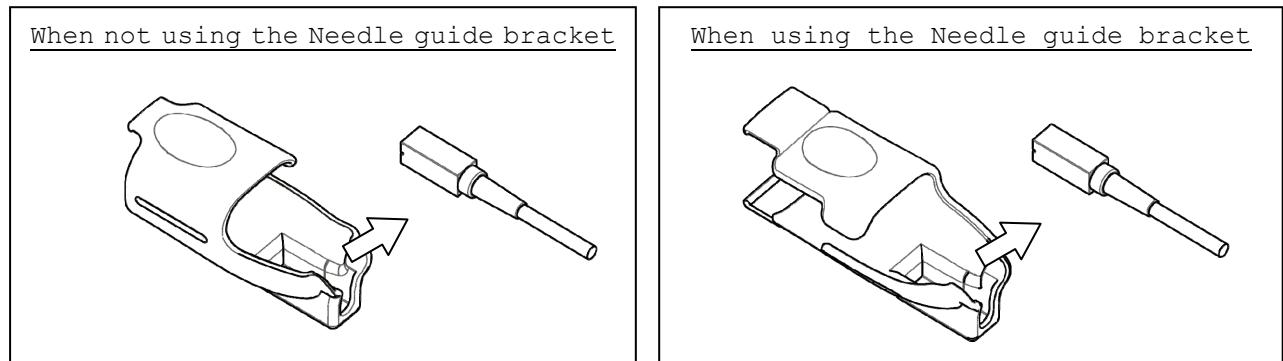

Fig. 7 How to release the magnetic sensor
- b) Release the magnetic sensor from the magnetic sensor attachment as shown in Fig. 7.